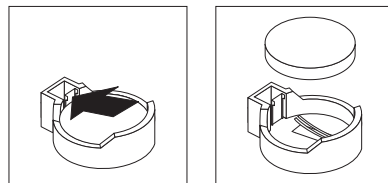

Figure 23. Removing the battery
- a. Use a fingernail to press the top of the battery clip away from the battery (see Figure 23). The battery pops up when released.